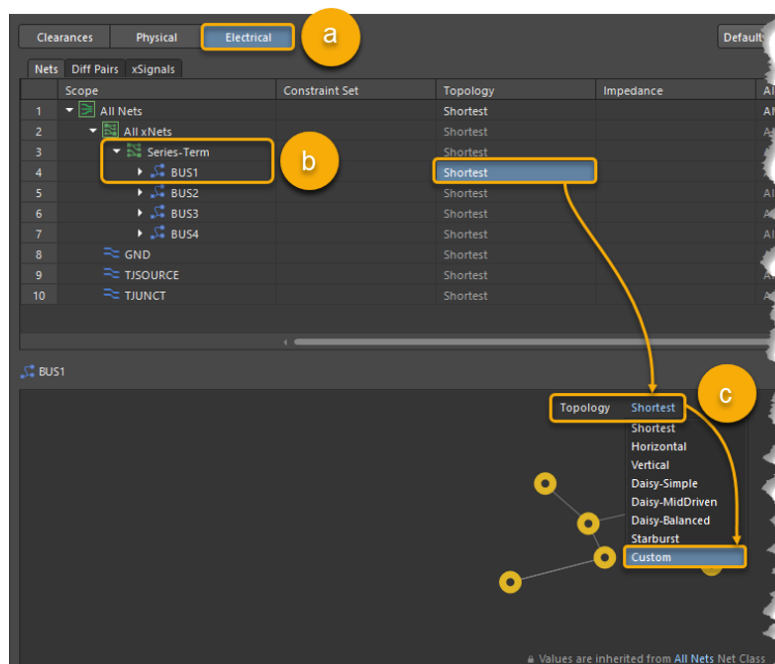

Figure 7. Change Topology for xNet
20. Inside the Constraint Manager, follow the steps below, Figure 7: